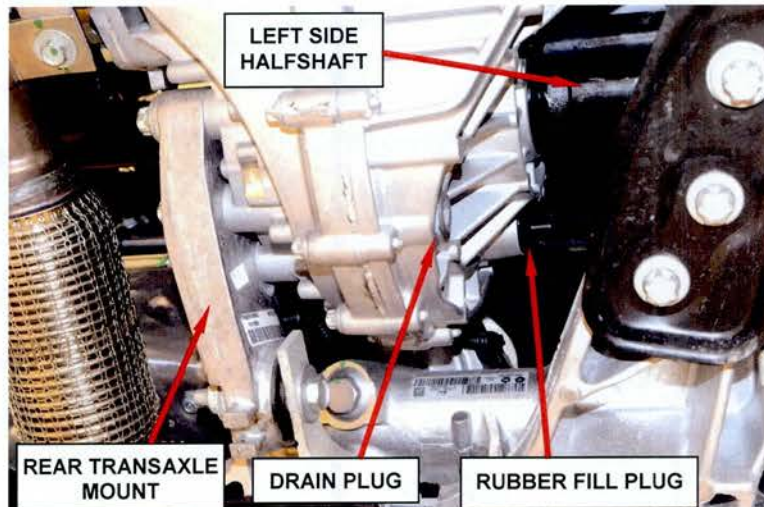

Figure 5 – Transaxle Drain Plug
12. Remove the transaxle drain plug and drain the gear oil from the transaxle (Figure 5).
13. Install the transaxle drain plug and tighten to 25 ft. lbs. (35 N·m) (Figure 5).